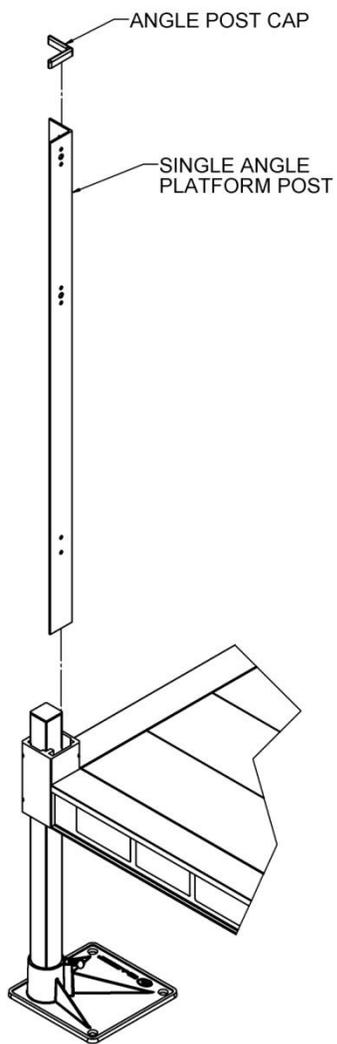

**FIG. 6.5**
- 6.1.10. For platforms over 5' wide, use two MHRPRC (CONNECTOR – PLATFORM HR TO RAMP HR) to connect ramp handrails instead of the MHRRC (FIG. 6.5).